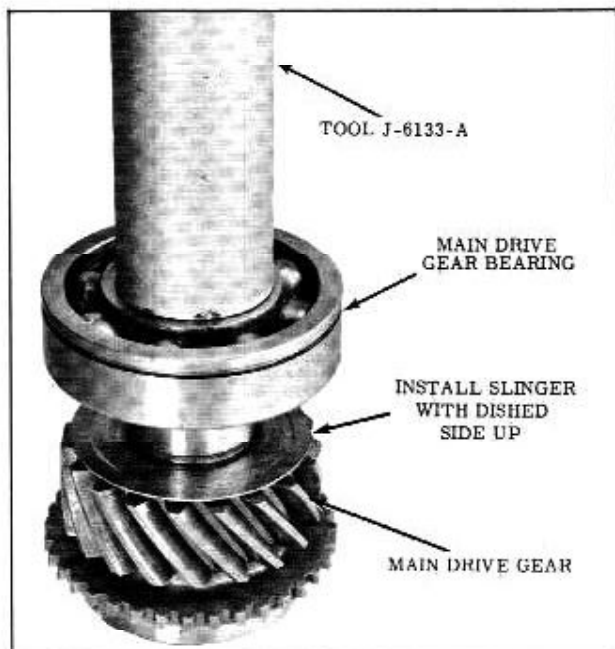

Fig. 10-20 Installing M.D. Gear Bearing
1. Place bearing on shaft with oil slinger washer, (Fig. 10-20) If washer is damaged it must be replaced.